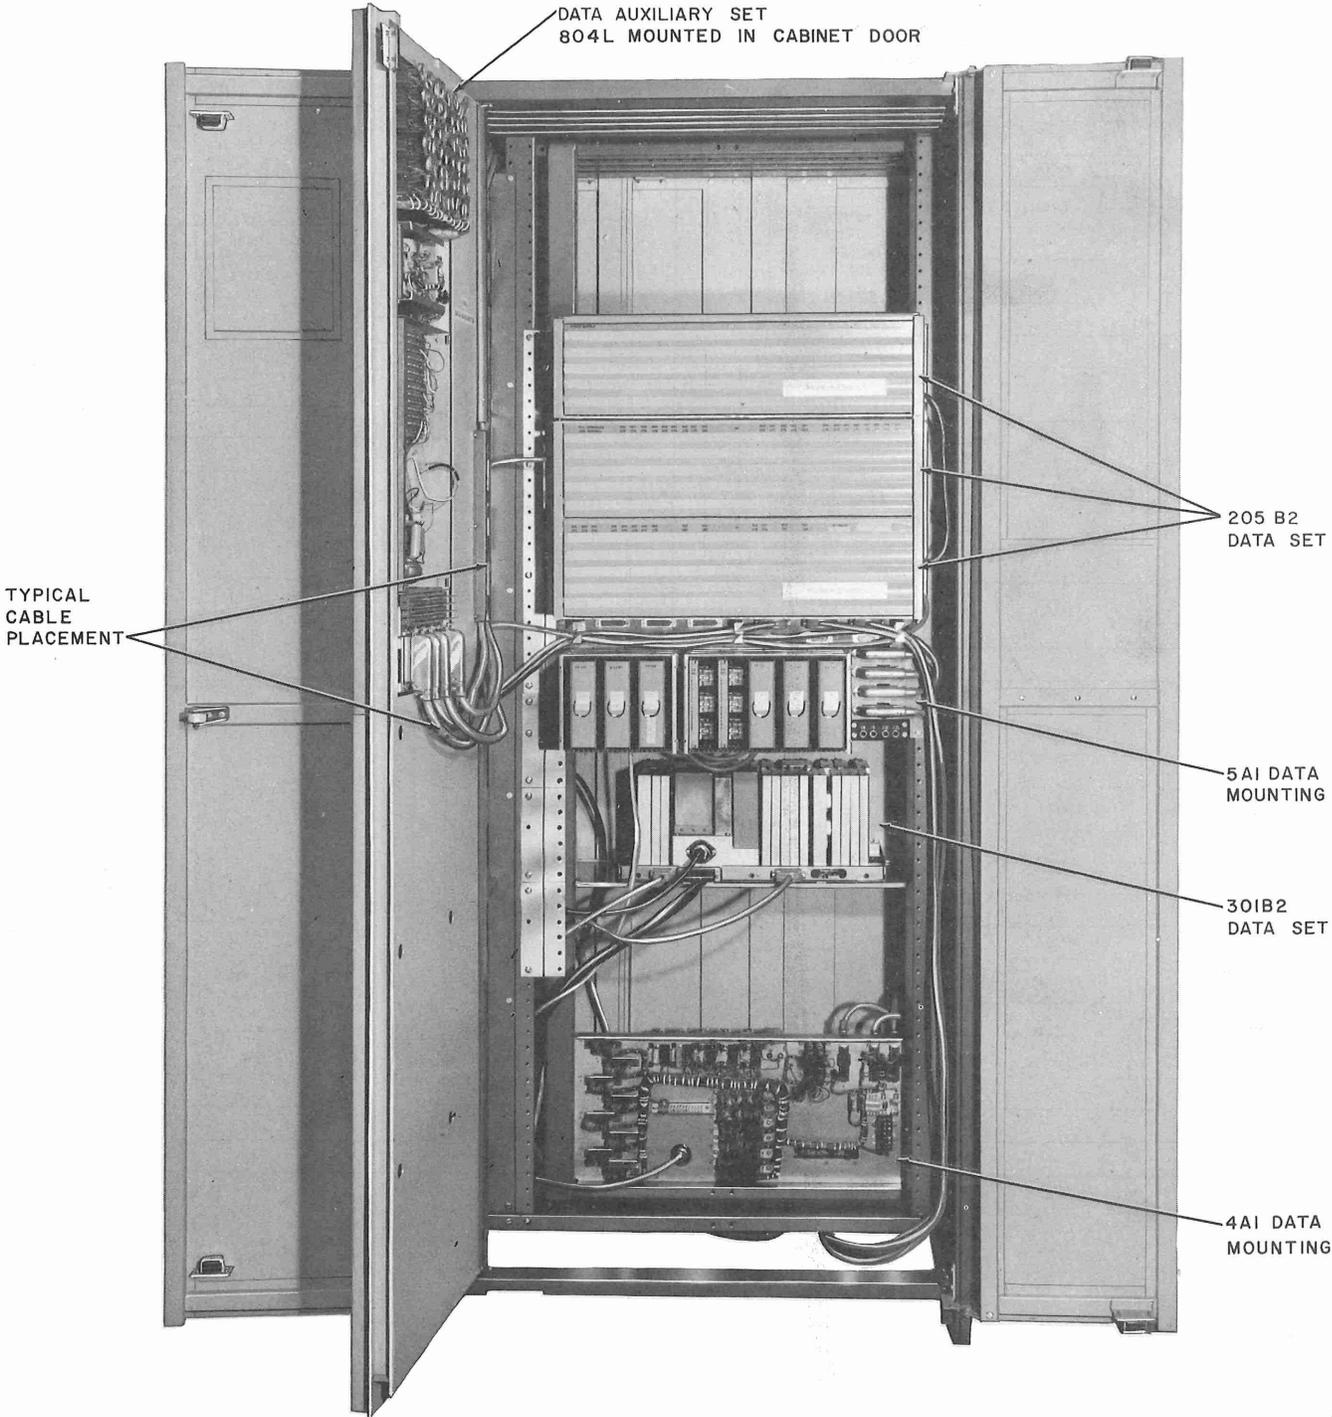

Fig. 2 — Typical Multiple Data Set Installation Showing the 5A1 Data Mounting in a KS-20093 L1 Cabinet Using KS-20130 L7-Type Adapter Plates
2.03 Figure 2 shows a typical multiple data set installation that uses a 5A1 Data Mounting. When the 5A is installed in the front of the KS-20093 L1 cabinet the use of KS-20130 L7-type Adapter Plates will be required to reduce the 25-inch frame to the required 23-inch mounting space. The adapter plates are shown in Fig. 2. Each 5A Data Mounting requires an 8-inch length of adapter plate. Table B summarizes the